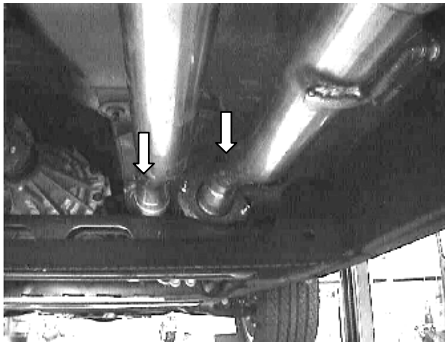

Figure 3
1. Place right front pipe assembly in position as shown in figure 3 and bolt flanges together finger tight using the hardware provided. Now place the hanger into the rubber bracket.
2. Place a clamp over the expanded end of the left front pipe assembly and place it into position as shown also in figure 3. DO NOT tighten the clamp.